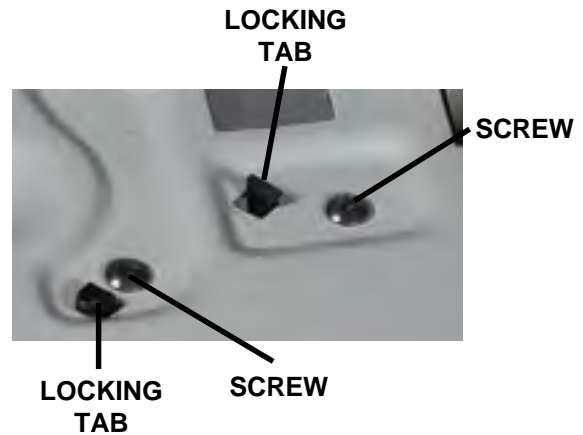

Fig. 9
1. Remove the two (2) Phillips-head screws securing the hidden lid switch to the washer top. (*Fig. 9*)
2. Disengage the two (2) locking tabs that secure the lid switch in place.